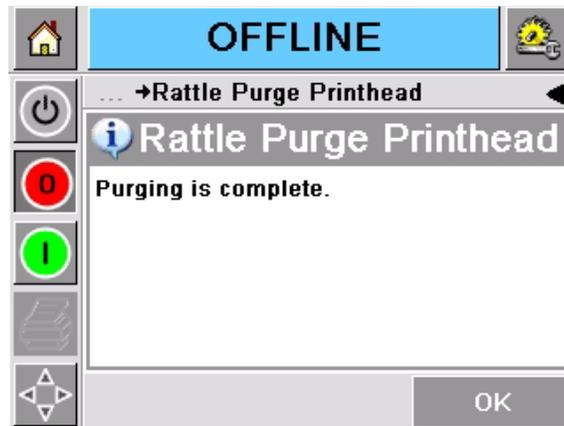

Figure 4-11: Purging Complete
- 6 The following page appears after the purging is complete (Figure 4-11). Select *OK*.